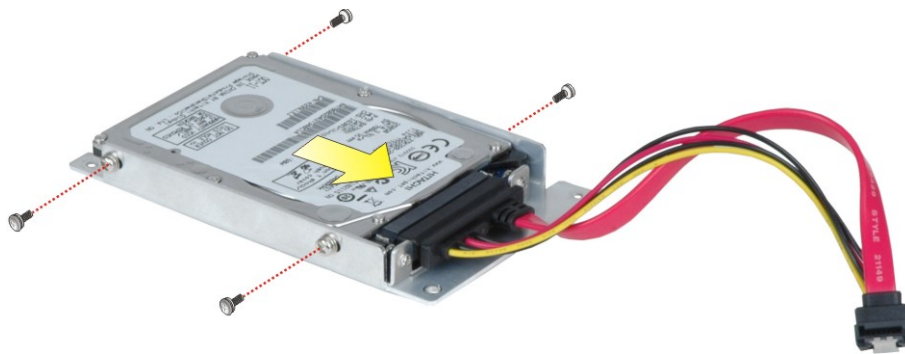

Figure 3-6: Inserting the HDD
Step 4: Insert an HDD into the bracket until the HDD is firmly connected with the SATA cable connector. Secure the HDD to the bracket using four retention screws (two screws on each side). See **Figure 3-6**.